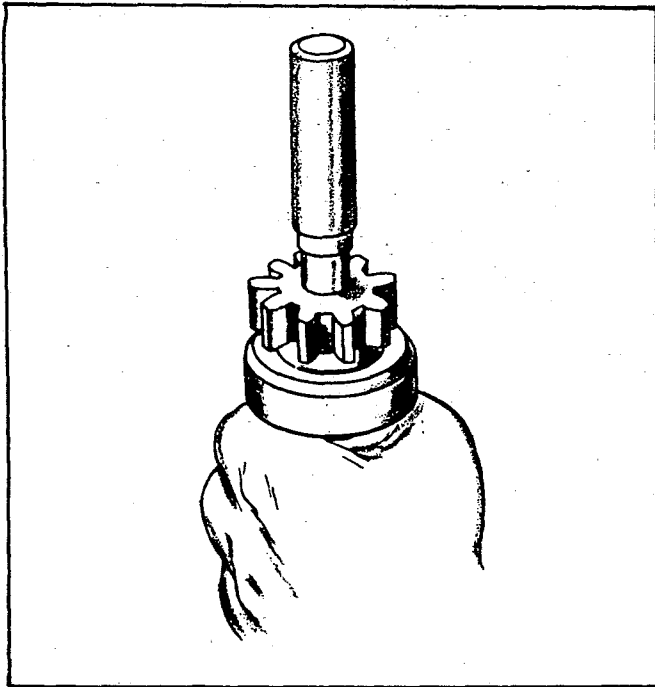

FIGURE 19. REMOVING RING
4. Remove the ring after driving the pinion stopper toward the pinion gear using a cylindrical tool as shown in Figure 19. The overrunning clutch and the pinion stopper should be removed simultaneously.